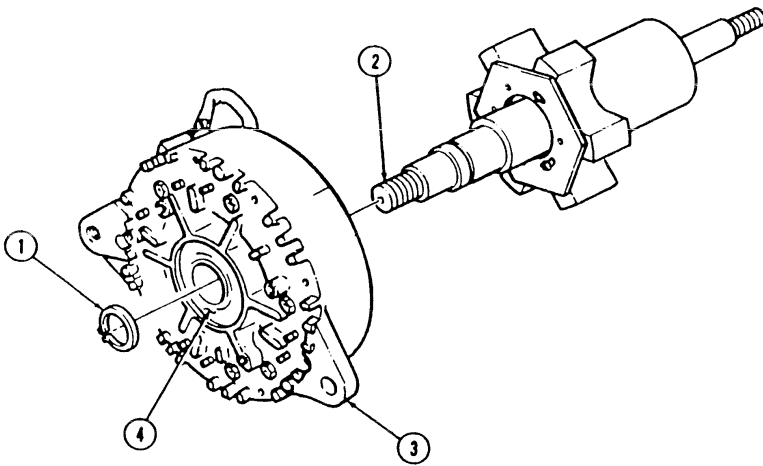

FIGURE 3-52
- (7) Use a press to install front bearing (4) and front housing assembly (3) on core and shaft assembly (2). (see figure 3-52)